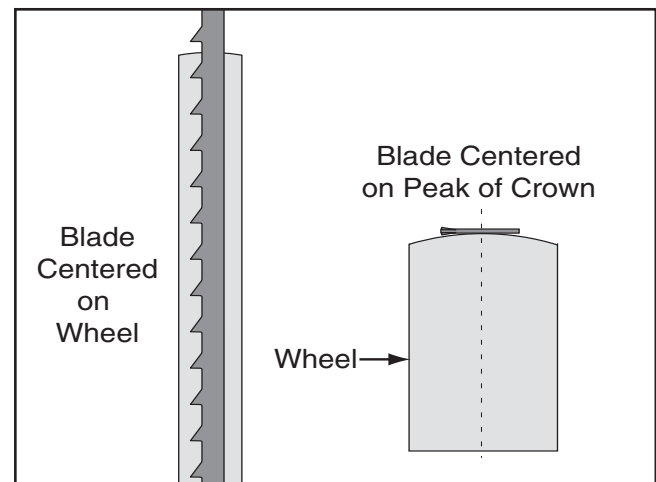

Figure 36. Center tracking profiles.
5. Spin the upper wheel by hand at least three times and watch how the blade rides on the crown of the wheel. Refer to **Figure 36** for an illustration of this concept.